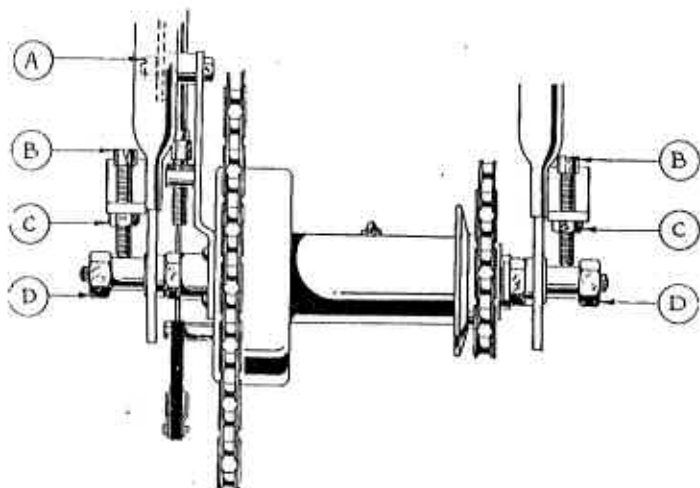

Fig. 2.
Chains. The main chain is correctly tensioned before despatch. To take up subsequent slackness proceed as follows. Loosen hub nuts (D), see Fig. 2, and brake arm pin (A), then slacken the chain adjuster lock-nuts (C). The wheel may now be moved back as necessary by turning the adjusters (B), but care must be taken to keep the wheel central by giving each adjuster the same number of turns. When the right degree of tension on the chain ($\frac{1}{4}$ " slack at the tightest place) is achieved, tighten lock-nuts (C), hub nuts (D), and brake arm pin (A).